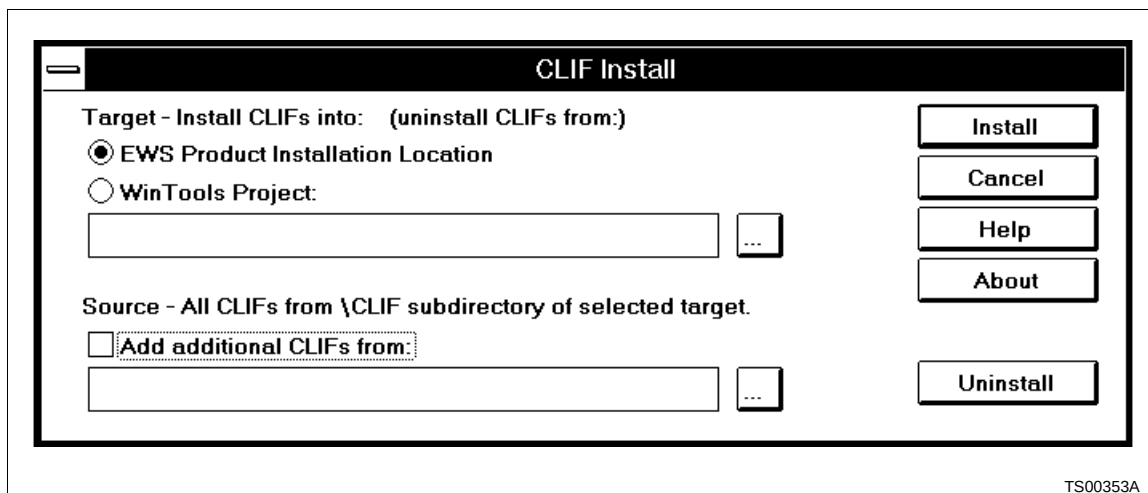

Figure 2-2. CLIF Installation
The *CLIF Install* dialog box appears as shown in Figure 2-2.
2. The *CLIF Install* dialog box appears as shown in Figure 2-2. Do one of the following: